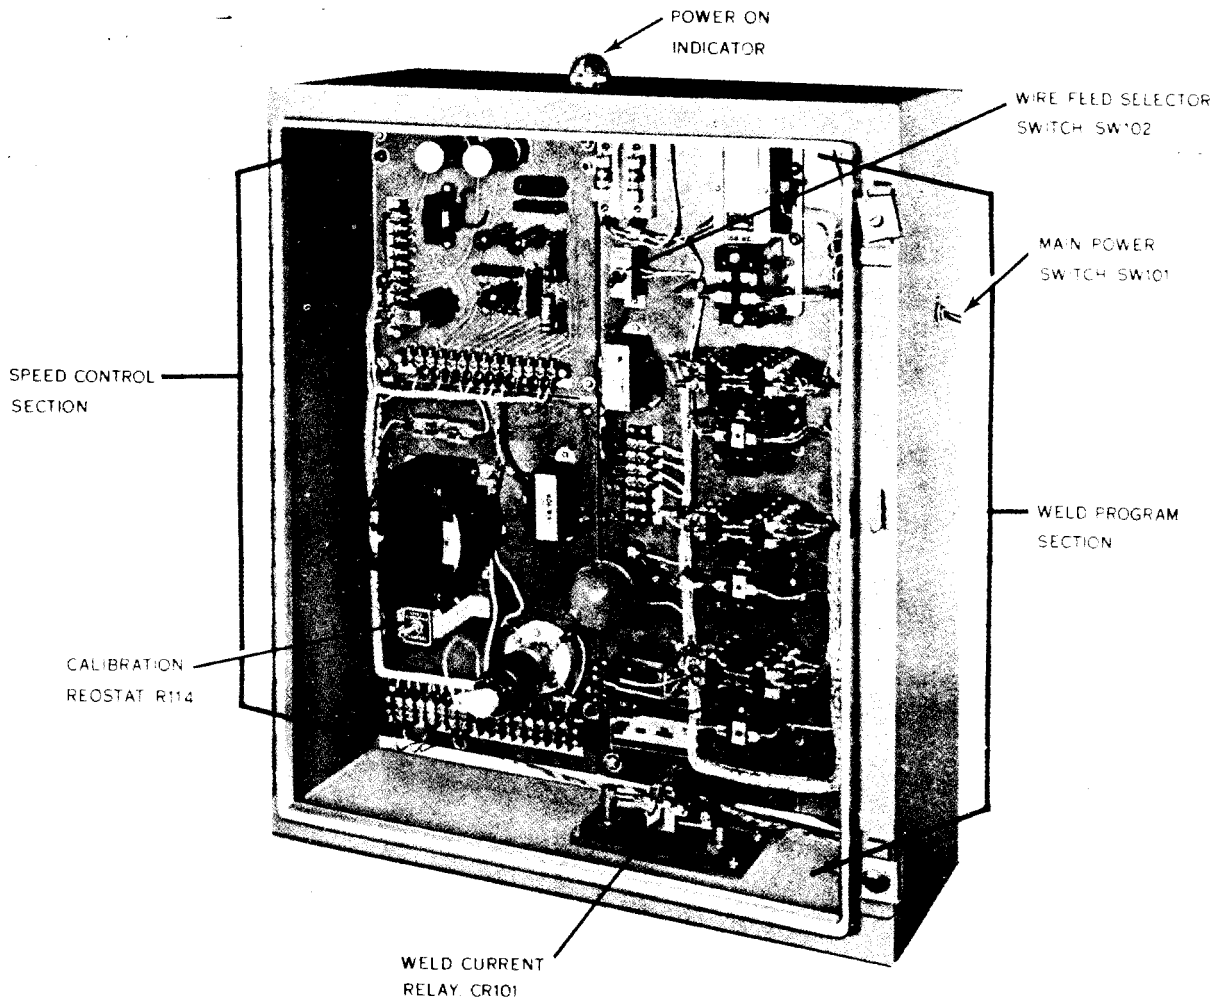
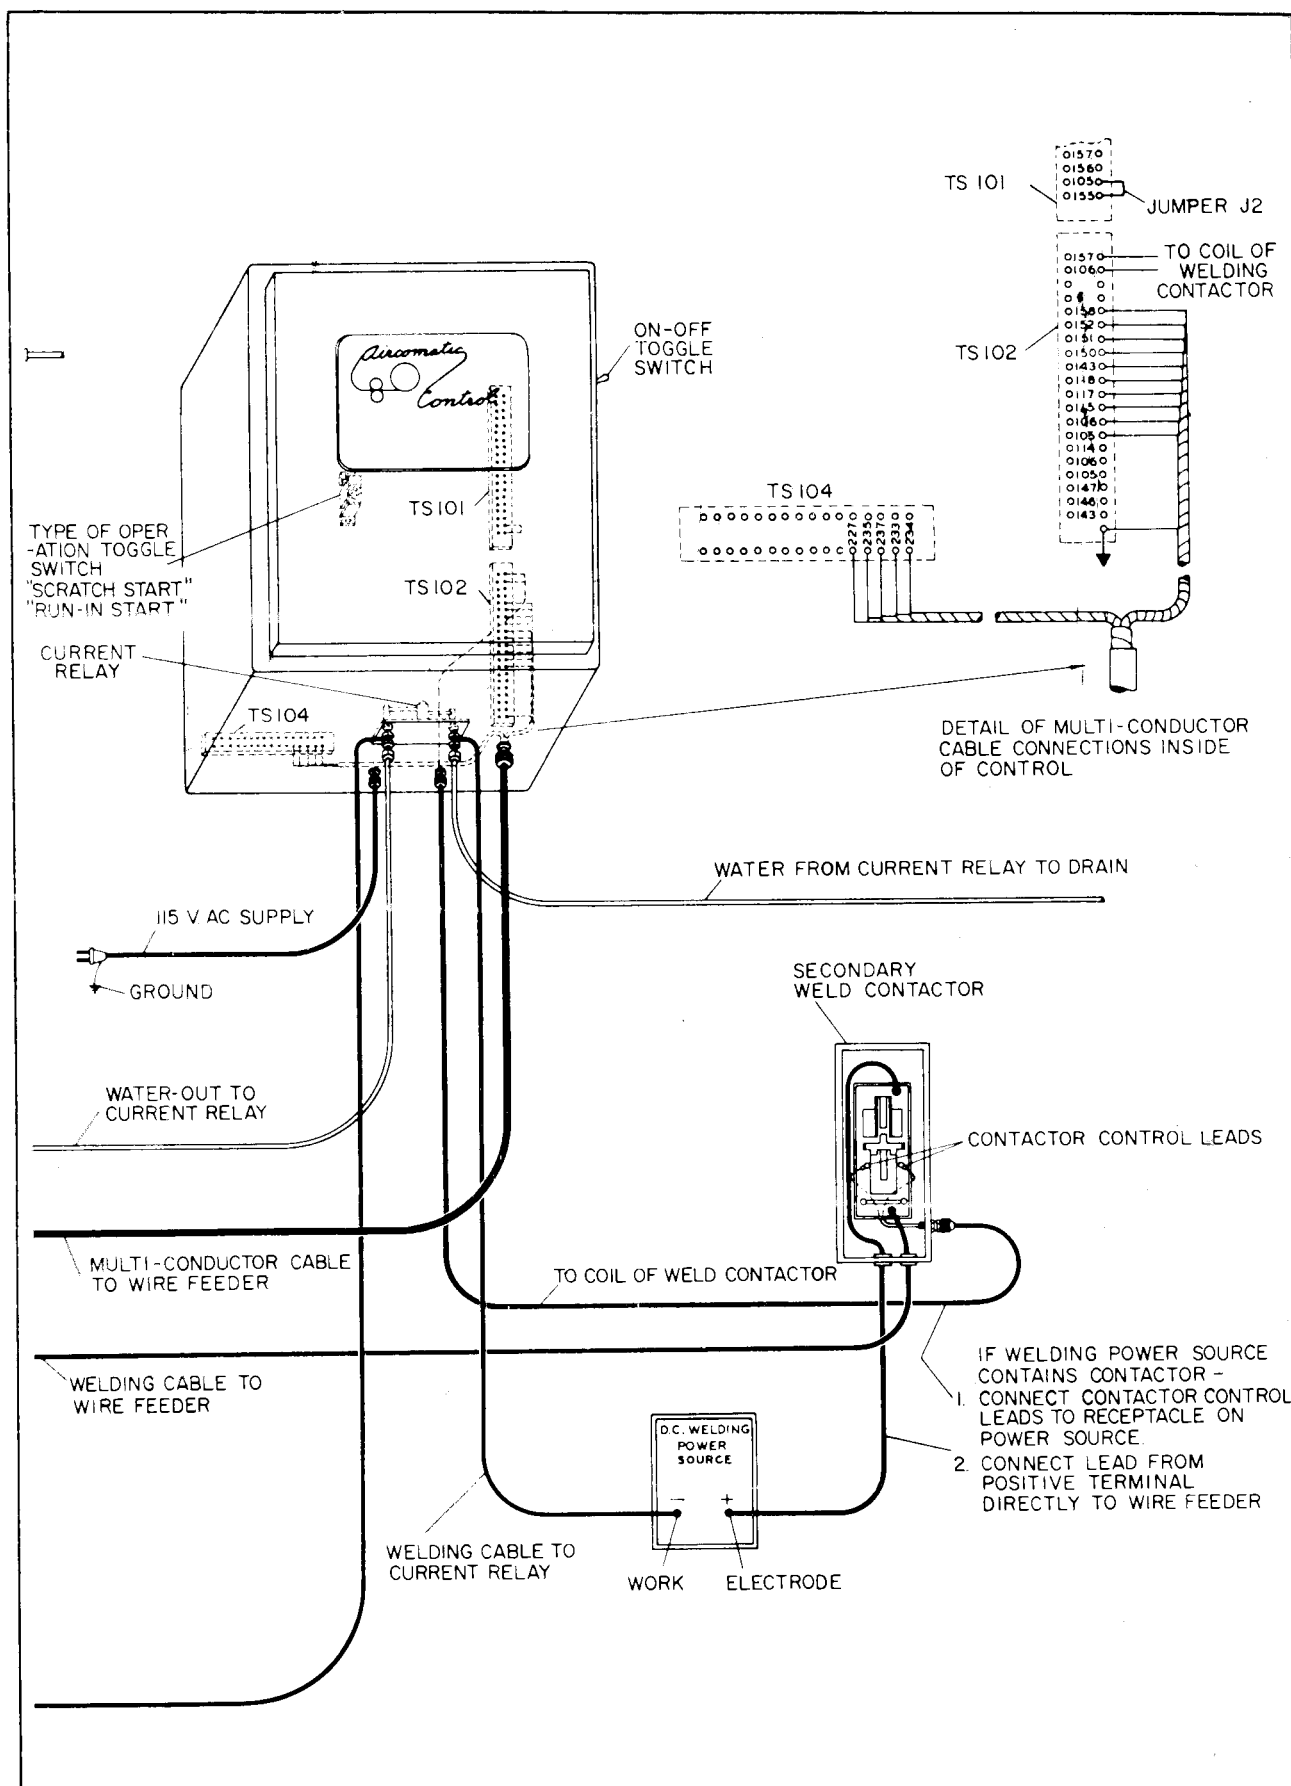

Fig. 4 Model AHC-B Control (Inside View)
Fig. 5 Interconnection Diagram
After making sure that the main power switch (Fig. 4) is OFF, connect Control in accordance with interconnection diagram (Fig. 5) as follows:
- b. Turn main power switch (Fig. 4) OFF.
- Turn main power switch (SW101) (Fig. 4) OFF.
To shut down Control, turn power switch (Fig. 4) OFF.